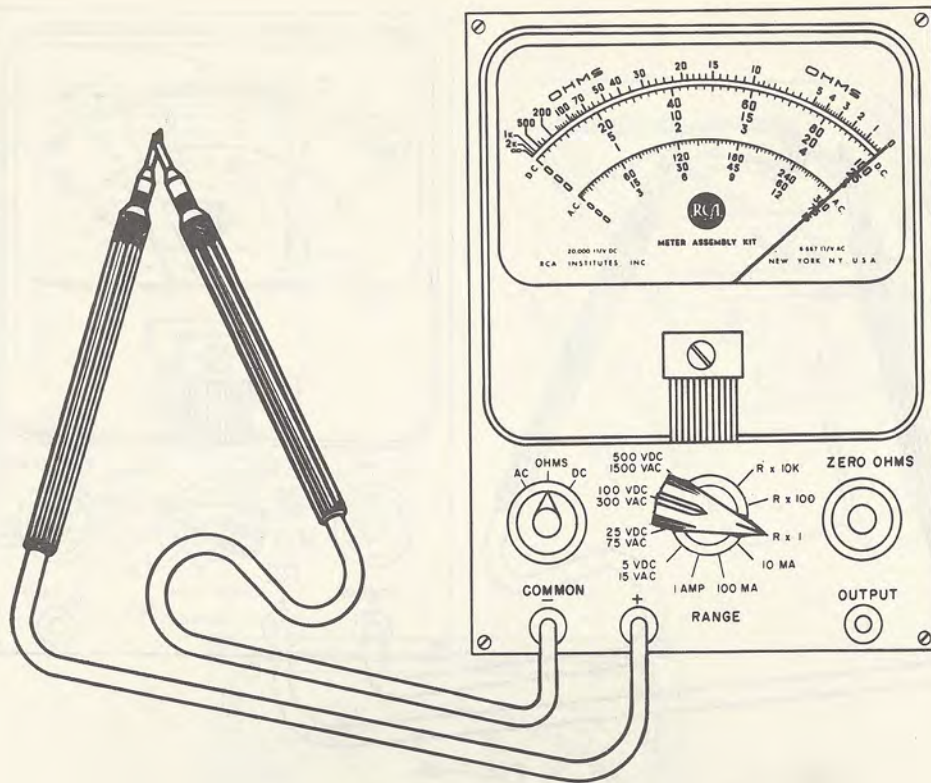
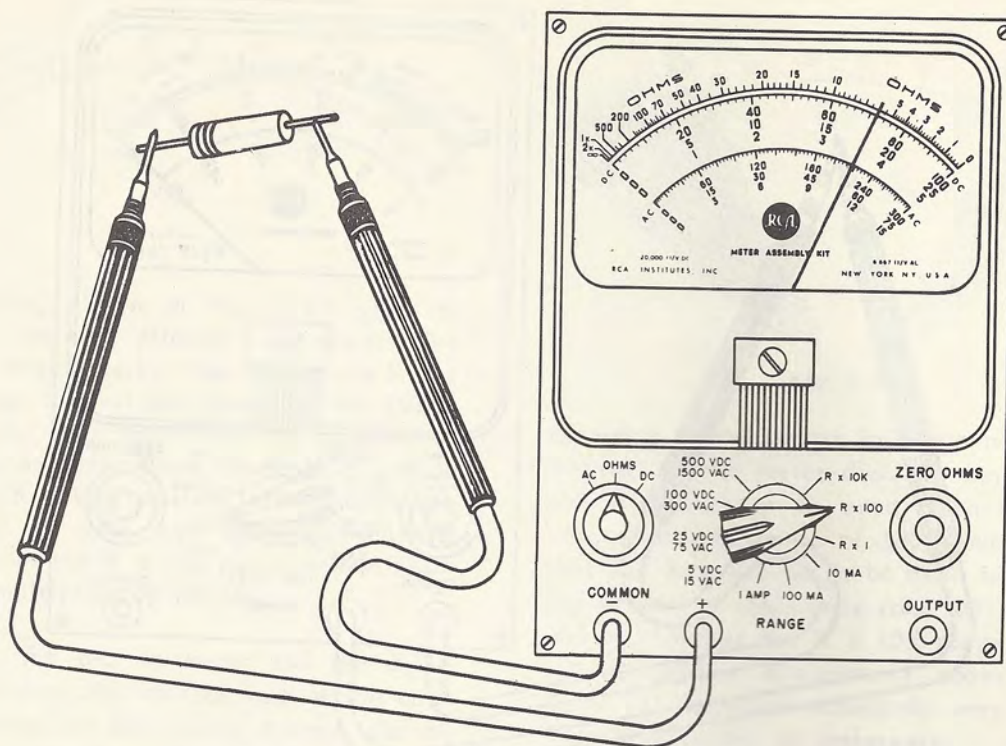

Fig. 7-19
Fig. 7-20
**Using the Ohmmeter Section of Your Multimeter.** To use the ohmmeter, place the red test lead in the + (red) pin jack and the black test lead in the COM pin jack. Turn the FUNCTION switch to OHMS and the RANGE switch to the desired range. Next "zero" the meter by adjusting the potentiometer marked ZERO OHMS. The adjustment is made by shorting the test prods together, as shown in Fig. 7-19 and adjusting the zero ohms knob until the meter needle rests directly over the zero calibration line. Then place the test leads across the part to be measured as shown in Fig. 7-20, and read the proper resistance scale.